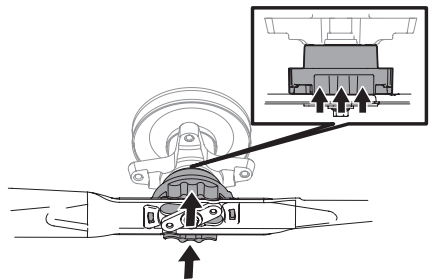

Fig. 47
- Push upward on the blade collar and hold it (Fig. 47).
4. Push the blade upward against the blade adapter until the collar above rises (Fig. 47 on page 31).